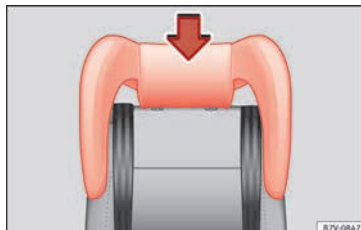

Fig. 95 Integrated child seats. install its head support.
- Enter the child seat head support in the corresponding backrest until it fits correctly into place **»» Fig. 95**.